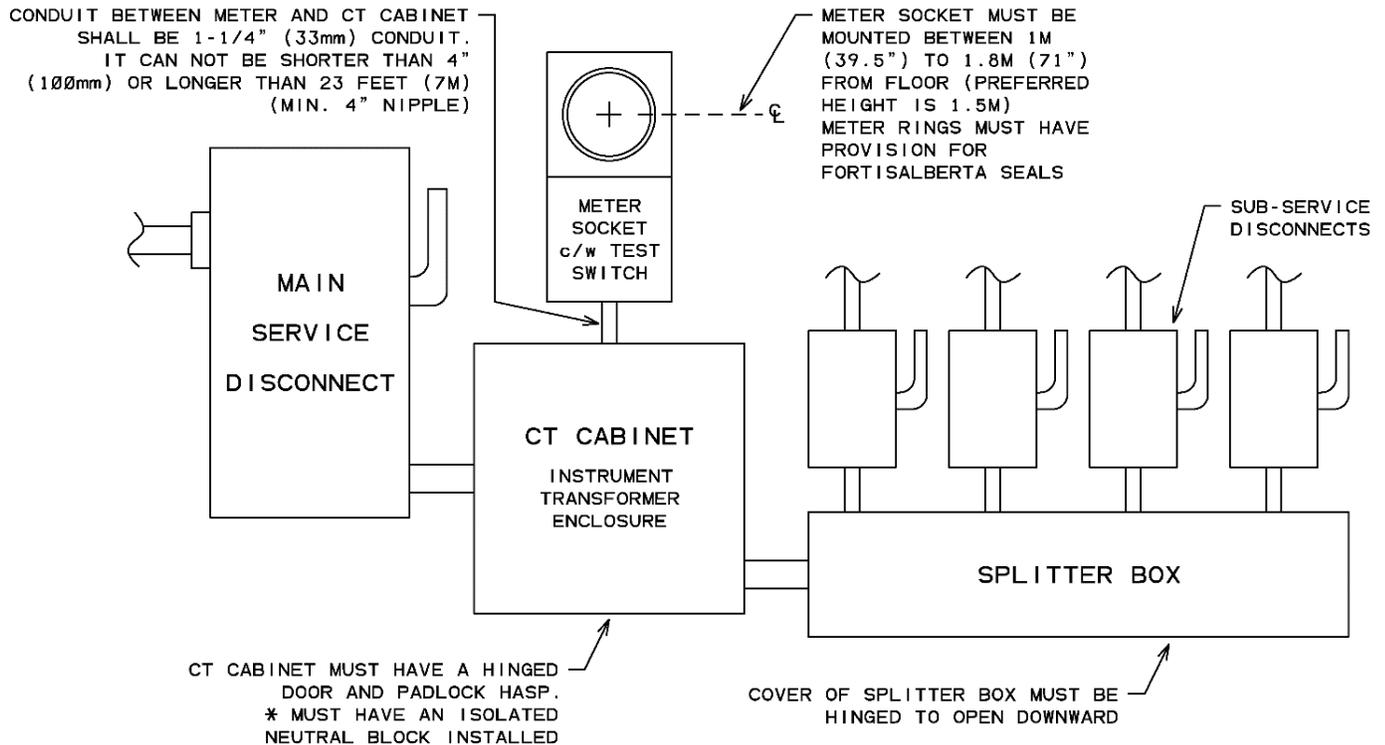

Figure 8 – Instrument Metering Layout
5.18.5.5. FortisAlberta shall make all connections to potential transformers, currents transformer secondary terminals, fuse blocks and instrument meter socket (refer to Figure 8).